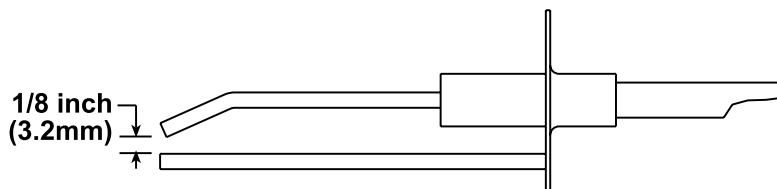

Figure 17. Ignitor Spark Gap
- The spark gap (see Figure 17) must be maintained to 1/8 inch.